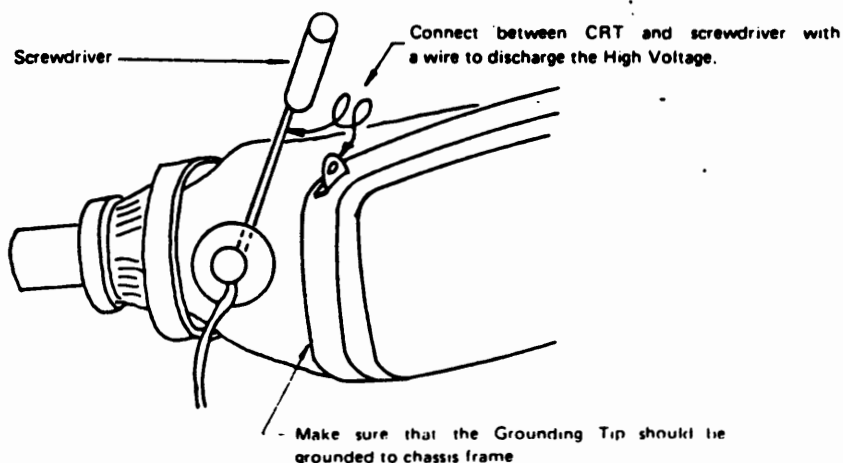

Fig. 4 Discharge of High Voltage
Before remove CRT, discharge the HIGH VOLTAGE throughly with the following procedures step 1 to 5 (Refer to Fig. 4)
Step 3. Discharge the High Voltage which has been charged in CRT. (See Fig. 4)